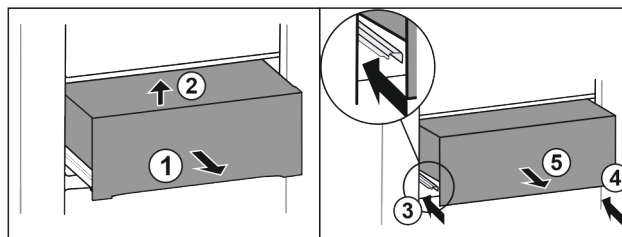

Fig. 33*
- Pull out the drawer half-way Fig. 33 (1).*
- Lift at the front Fig. 33 (2).*
- Insert left rail Fig. 33 (3).*
- Insert right rail Fig. 33 (4).*
- Take out the drawer to the front Fig. 33 (5).*